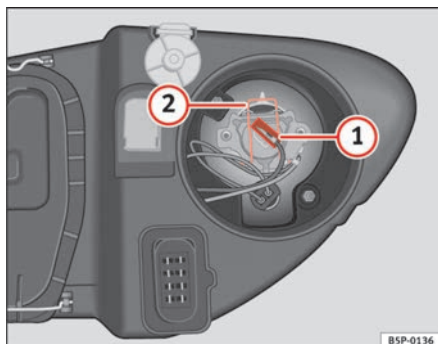

Fig. 167 Main beam headlights
- Remove the connector ⇒ fig. 167 ① from the bulb.
- Press the spring ⇒ fig. 167 ② inwards and to the right.